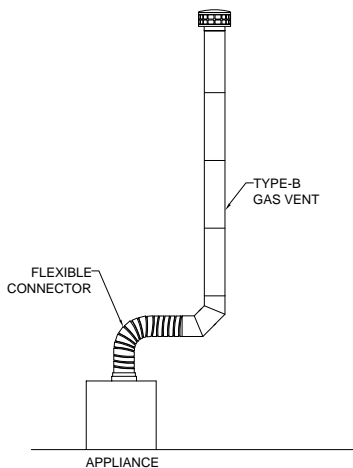

FIG. 4
- a. A single appliance (See **FIG. 4**) or